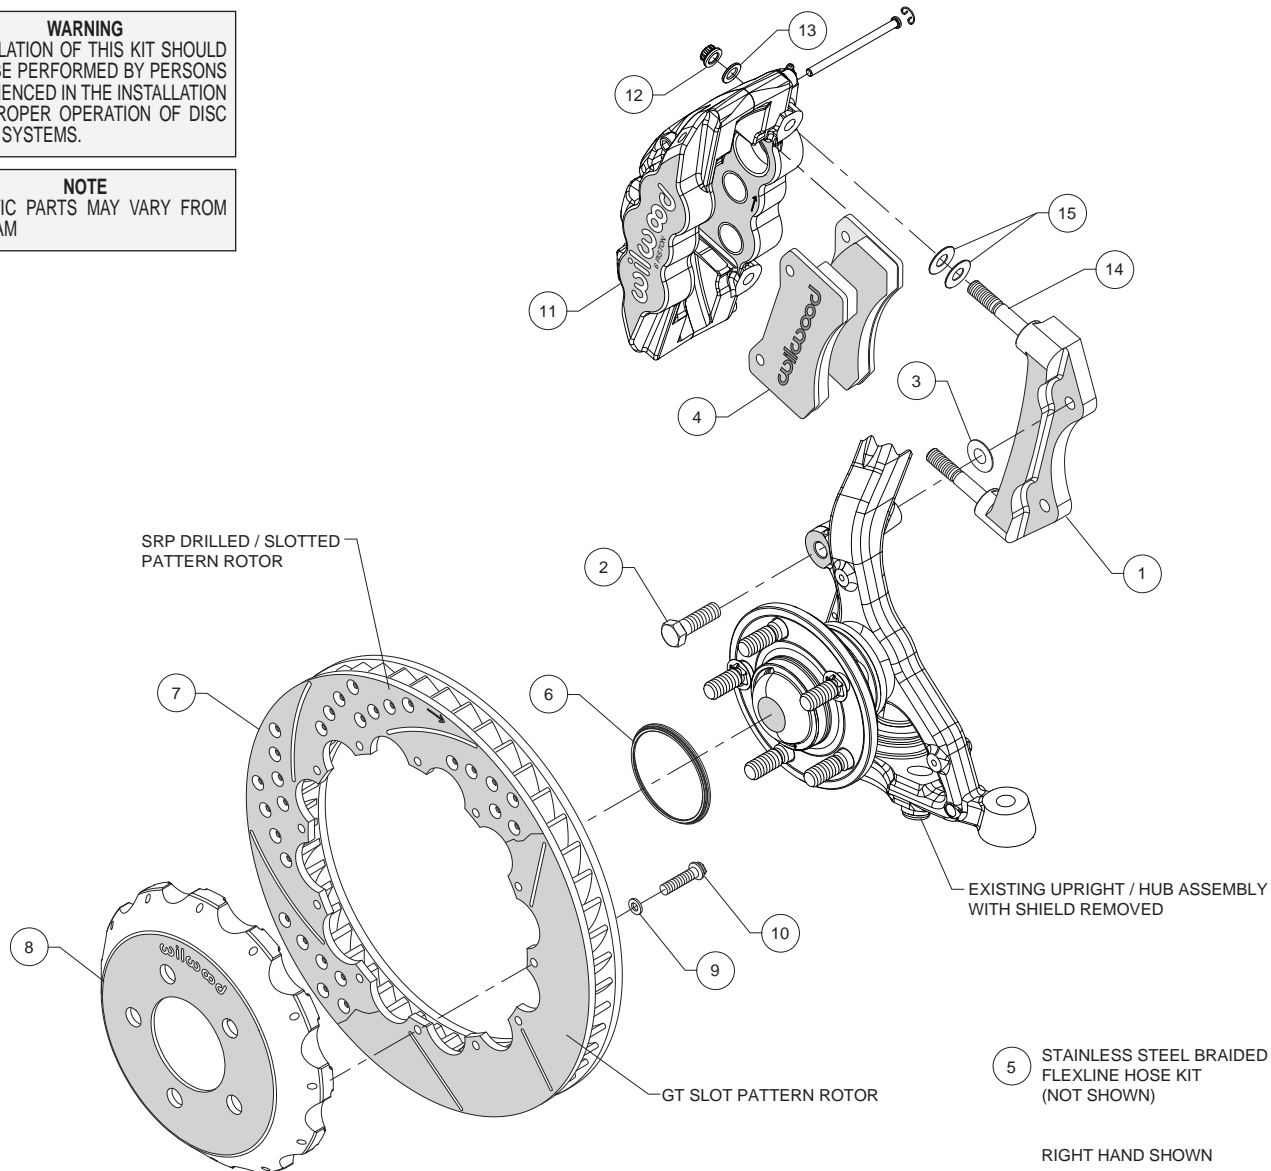
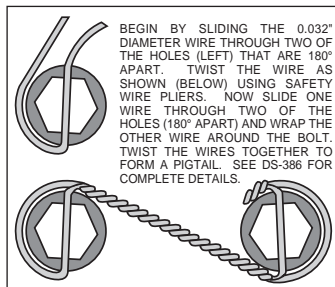

Figure 1. Typical Installation Configuration
Figure 3. Safety Wire Diagram
Assembly Instructions (numbers in parenthesis refer to the parts list and Figure 1 on the preceding pages):
- The caliper mount bracket (1) should initially be installed with clean, dry threads on the mounting bolts. Orient the bracket as shown in Figure 1 and Photo 1 and install using mount bolts (2). Initially place one .029" thick shim (3) on each bolt between the bracket and upright, Figure 1. Temporarily tighten the mounting bolts. **NOTE: The bracket must fit squarely against the mount bosses on the upright.** Inspect for interference from casting irregularities, machining ridges, burrs, etc. Later, after the caliper alignment has been checked, the mount bolts will be secured using red *Loctite*® 271.
- Orient the rotor (7) and the hat (8) as shown in Figure 1 and Photo 2. Attach rotor to hat using bolts (10) and washers (9). Using an alternating sequence, apply red *Loctite*® 271 to the threads and torque bolts to 155 in-lb. For an added measure of security, the bolts may be safety wired using standard 0.032 inch diameter stainless steel safety wire as shown in Figure 3. Please refer to Wilwood's data sheet DS-386 for complete safety wire installation instructions.
- NOTE: This kit contains distinct right and left hand calipers that must be mounted in a specific direction, as described below.** Lubricate the caliper mounting studs (14) with lightweight oil. Initially place two .030" thick shims (15) on each stud between the caliper and the bracket, as shown in Figure 1 and Photo 4. Mount the caliper (11) onto the bracket (1) using lock nuts (12) and washers (13), Figure 1. Temporarily tighten the lock nuts. Ensure that the caliper is mounted so the largest pistons are at the rotor exit end of the caliper, in relation to the direction of the rotor. View the rotor (7) through the top opening of the caliper. The rotor should be centered in the caliper, Photo 5. If not, adjust by adding or subtracting shims (3) between the bracket and the upright. Always use the same amount of shims on each of the two mounting bolts. Once the caliper alignment is correct, remove the bracket mounting bolts one at a time, apply red *Loctite*® 271 to the threads, and torque to 77 ft-lb.
- Remove the two pad retaining pins from the caliper (11) by carefully popping out the pin retaining clips and sliding out the pins. Insert the brake pads (4) into the caliper from the bottom, Figure 1 and Photo 6. With the friction material facing the rotor,